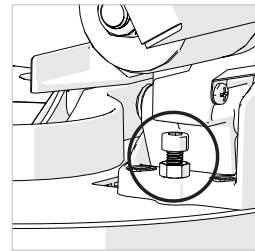

Fig. 22
- Loosen slightly the 0° bevel stop adjustment screw locknut. (**Fig. 22**)